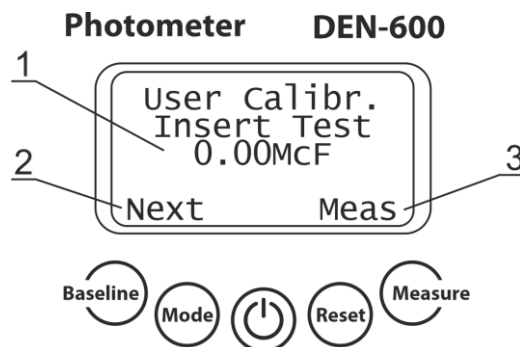

Figure 3. Display and control panel of DEN-600 in calibration mode
2.7.1. Connect the external power supply to electric circuit. Switch on the unit using the **Power** key on the control panel (figure 3).
2.7.2. Press **Baseline** key 5 times in McF mode to enter user calibration regime (figure 3).
2.7.3. Display shows the value of necessary standard (fig. 3/1).
- Insert the standard tube into the socket and press *Meas* (fig. 3/3, **Measure** key). Unit measures turbidity, display sequentially shows indications “*Wait...*” and the McF value in the lower line. After the measurement, next calibration point appears on display. Remove the standard tube and repeat.
- If the displayed standard is not available, press *Next* (fig. 3/2, **Baseline** key) to skip to the next standard.
- If the calibration was not successful, display shows “*Data Error*” before restarting the calibration procedure (figure 3).